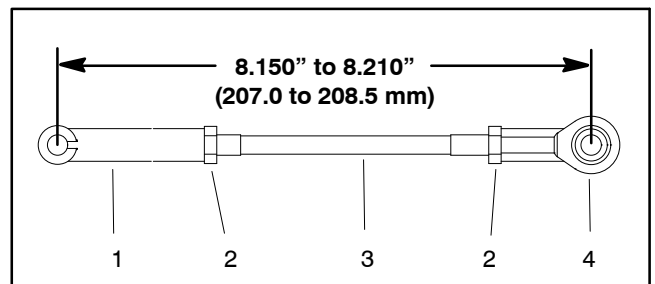

Figure 46
1. If bellcrank rod (item 19) was disassembled, thread rod into clevis until the end of the rod is flush with the inside of the clevis. Then, install balljoint so the centers are from 8.150" to 8.210" (207.0 to 208.5 mm) as shown in Figure 46. Also, make sure that sides of clevis and balljoint are parallel to prevent binding during operation.
2. If drive pulley (item 8) was removed from clutch shaft, install components on shaft:
- A. If inner ball bearing (item 7) was removed from clutch shaft, press new bearing onto shaft.
- B. Slide drive pulley (item 8) onto bearing on clutch shaft.
- C. Press new outer ball bearing (item 9) onto clutch shaft.
- D. Install flocked bearing shield (item 10), wave spring (item 11) and flat washer (item 12) onto clutch shaft. Secure with retaining ring (item 13)
3. Align clutch to clutch shaft and slide clutch onto clutch shaft. Secure clutch to shaft with flange head screw (item 2) and washer (item 4).
4. Secure drive pulley to clutch with three (3) washer head screws. First, torque all three (3) screws from **15 to 40 in-lb (1.7 to 4.5 N-m)**. Then, torque all screws from **95 to 105 in-lb (10.7 to 11.8 N-m)**.
5. Position clutch housing to clutch and secure with three (3) flange head screws (item 2). Make sure that grommet (item 3) is secure on housing.
6. Install clutch assembly into transmission housing. Secure clutch housing to transmission housing with four (4) washer head screws (item 15). Tighten screws as follows:
- A. First, torque all four (4) screws from **15 to 40 in-lb (1.7 to 4.5 N-m)**.